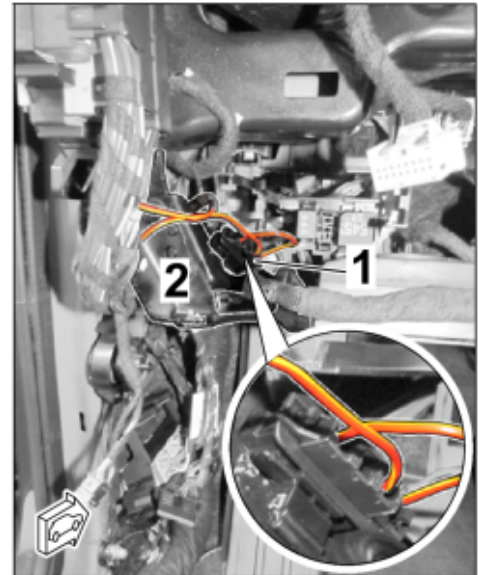

Figure 34
2.6.8 Install pin connector socket (3-pin) with clip onto the dashboard bracket and connect plug connection (3-pin) (⇒ Figure 34).